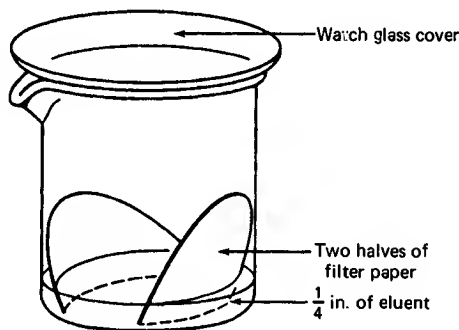

Fig. 92 The secret identity of a 150-ml beaker as a TLC slide development chamber is exposed.
1. Take a 150-ml beaker, line the sides of it with filter paper, and cover it with a watch glass (Fig. 92).